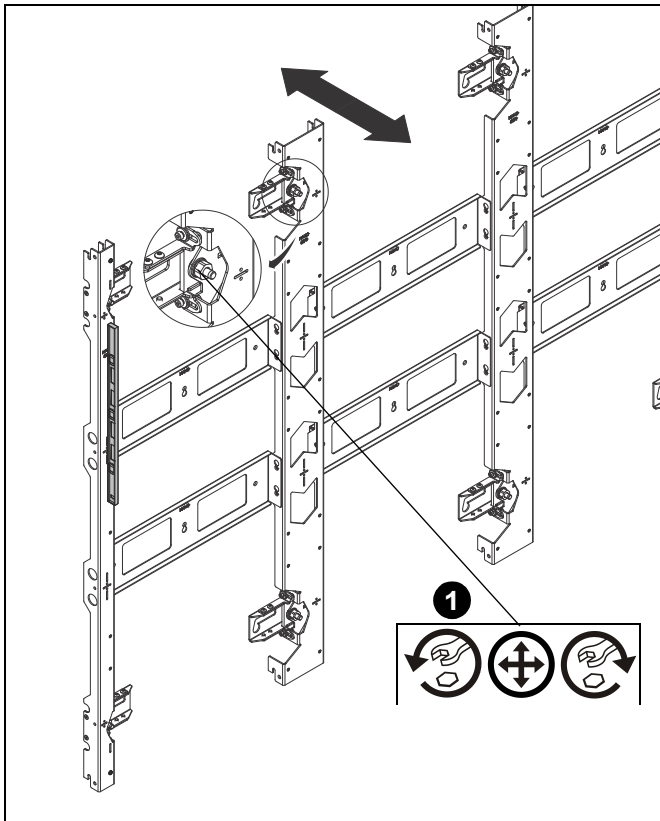

Figure 23
1. Turn hex nuts in either direction to adjust depth as needed. (See Figure 23)
2. Carefully adjust until LED housing is adjusted to desired depth by slowly turning threaded buttons. See manufacturer's instructions for further details. (See Figure 23)